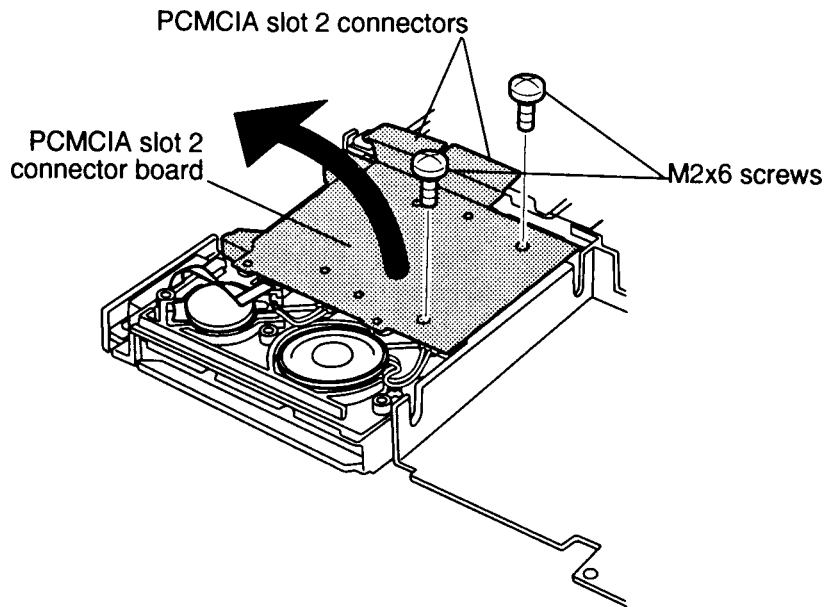

Figure 4-37 Removing the PCMCIA slot 2 connector board
6. Remove **two M2x6 screws** securing the **PCMCIA slot 2 connector board** at the corners. Do not remove the two screws at the middle edges of the board (Figure 4-37).
7. Disconnect the **two PCMCIA slot 2 connectors** from the **lower system board** and rotate the PCMCIA slot 2 connector board out of the base assembly (Figure 4-37).
2. Seat the **PCMCIA slot 2 board** with speaker, RTC battery, and BPQP port attached, then connect the **two PCMCIA slot 2 connectors** to the **lower system board** (Figure 4-37).
3. Secure the PCMCIA slot 2 board with **two M2x6 screws**, then set the speaker, RTC battery and BPQP port in place. Make sure insulation for the speaker cables goes on top of the cables (Figure 4-37).